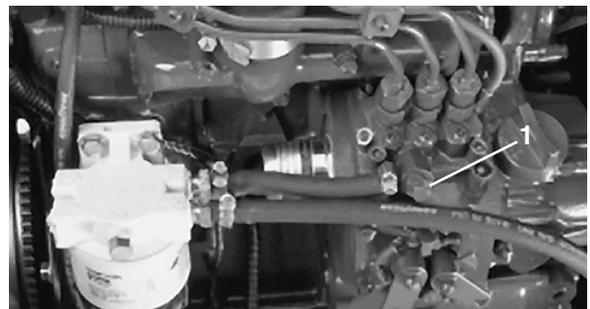

Figure 16
3. Open the air bleed screw on the fuel injection pump (Fig. 16).